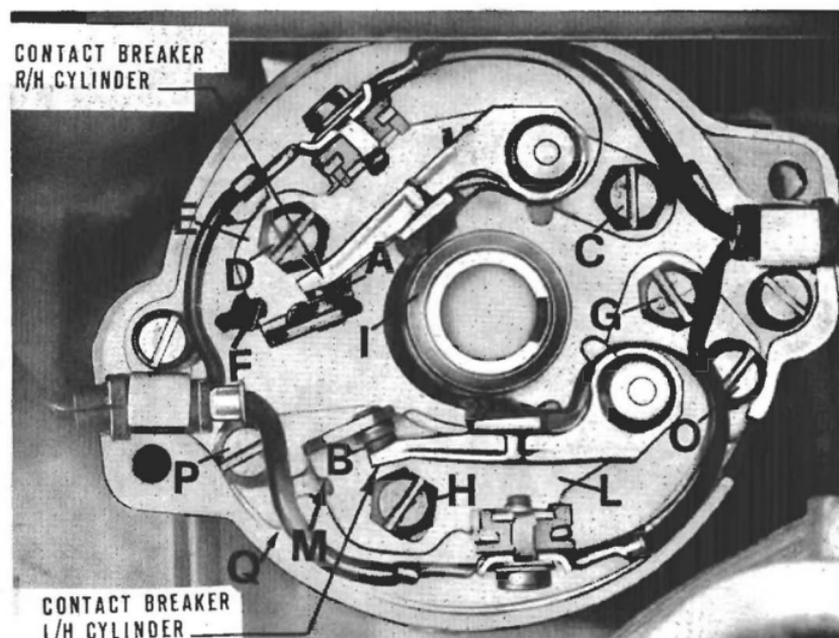
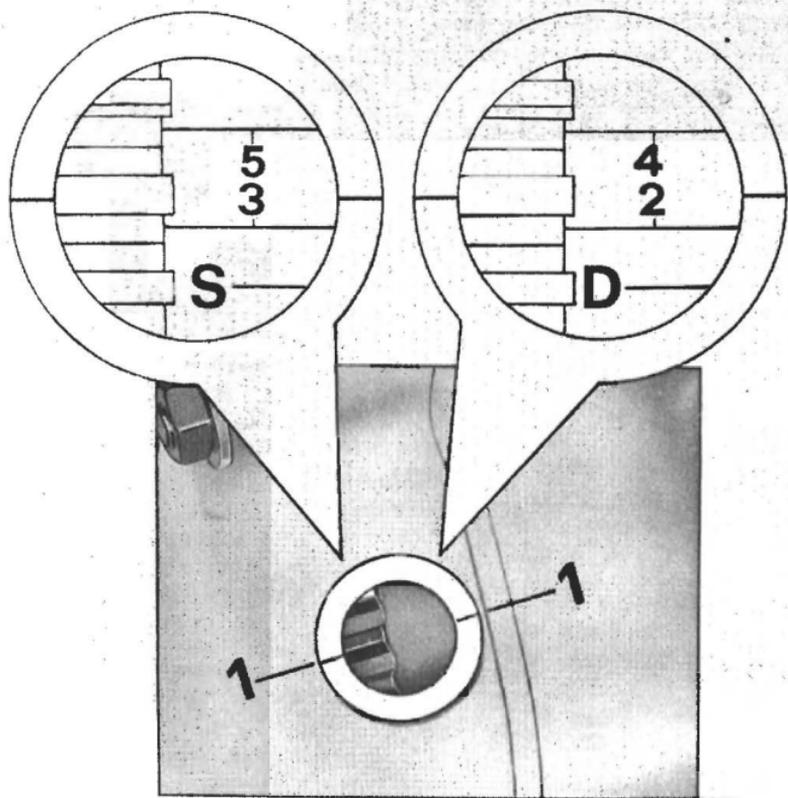

Fig. 19
Fig. 20
(Fig. 19)**
Checking and adjustment of ignition timing (fixed advance fig. 19 and 20)
- To find the exact moment when the points of breakers A and B (fig. 19) start separating it is best to use a suitable timing light device mounted in between the clamp terminal and the ground of the breaker which is being tested.
Timing the R/H cylinder (See fig. 20)
- Rotate now the flywheel clockwise to a point about 15 mm (.59") in a forward position to flywheel mark 2 (fig. 20) and then rotate back the flywheel very slowly to bring mark 2 in coincidence with mark 1 on the check hole rim. Purpose of this operation is to recover any backlash of the gears. In this position, fixed advance mark 2 is 13° from TDC (D) and so at the commencement of the points separation (« A » in fig. 19).
Timing of the L/H cylinder (See fig. 20)
- Rotate the flywheel anticlockwise until the piston is at the end of the compression stroke (with both valves closed). In this position, mark « S » on the flywheel (TDC of L/H cylinder) should coincide with the mark (1) on the check hole rim.
- Rotate now the flywheel clockwise to a point 15 mm (.59") in forward position to the flywheel fixed advance mark (3) in fig. 20 and slowly rotate the flywheel backwards on to the position where fixed advance mark 3 is in coincidence with mark 1 on the check hole rim. Scope of this operation is to recover and backlash of the gears. In this position, fixed advance mark 3 is 13° from TDC (mark « S ») and so at the point where the contact points start separating. (« B » in fig. 19).
N.B. - If the points (« A » and « B » in fig. 19) do not start opening in the above positions, the ignition timing needs adjustment.
- Loosen contact breaker screws which secure it to the crankcase and move the breaker to the right or left to find the position where the points start opening when mark 2 in fig. 20 (fixed advance mark) on the flywheel coincides with mark 1 on the rim of the check hole, proceeding as described in « Checking and adjustment of « ignition timing ».
- Proceeding as described in « Checking and adjusting ignition timing for the left hand cylinder (contact breaker « B » fig. 19) set flywheel mark 3 in fig. 20 in coincidence with mark 1.
- Loosen arrow « O » and « P » (Fig. 19) which secure the contact breaker plate « B » and by acting on notch « Q » move the plate to the position where the points of breaker « B » start opening.
(See fig. 20 and diagram 21)
Marks « D » and « S » are impressed on the flywheel on which are also traced the marks shown in fig. 20 (3-4-5-6).